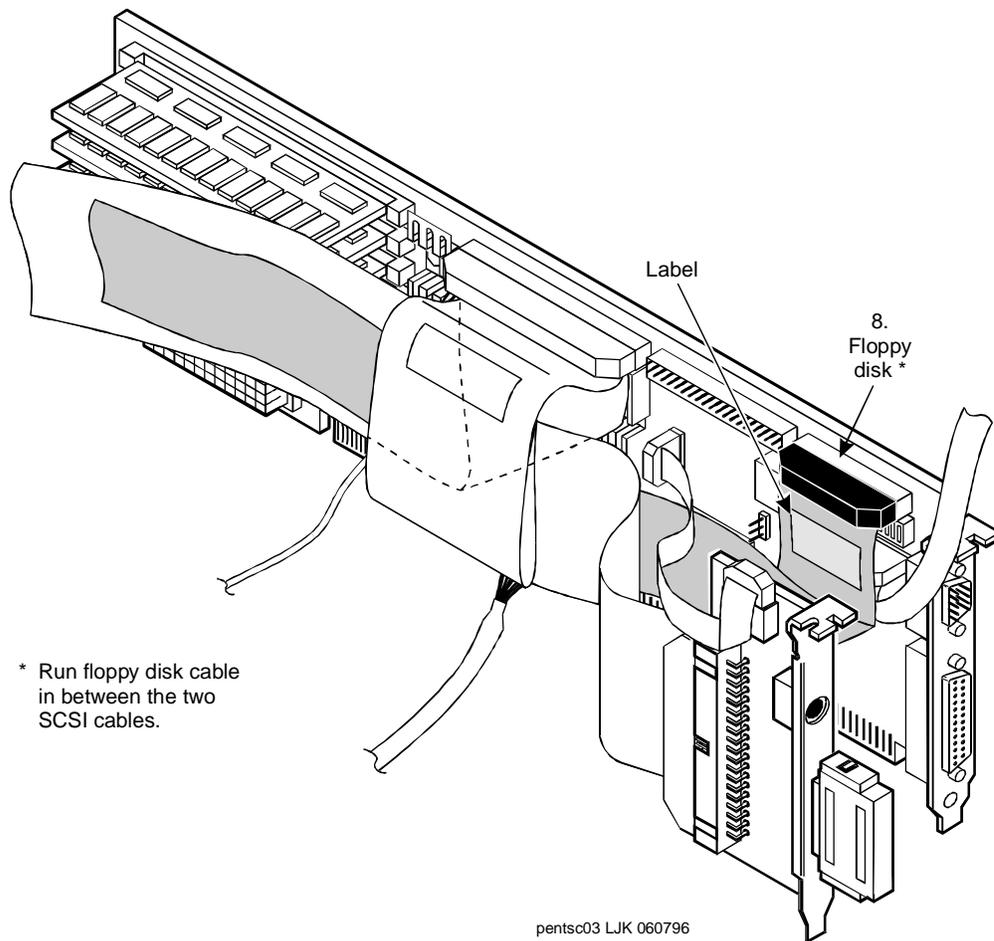

Figure 5-23. Attaching Cables to the P5120/CPU Circuit Card - Part 3
16. Attach the diskette drive cable to the diskette drive cable pins on the P5120/CPU circuit card (Figure 5-23).
The diskette drive cable has a label which contains the following message (Figure 5-23):
17. Dress this cable through the SCSI cable and beneath the external SCSI connector circuit card (Figure 5-23).